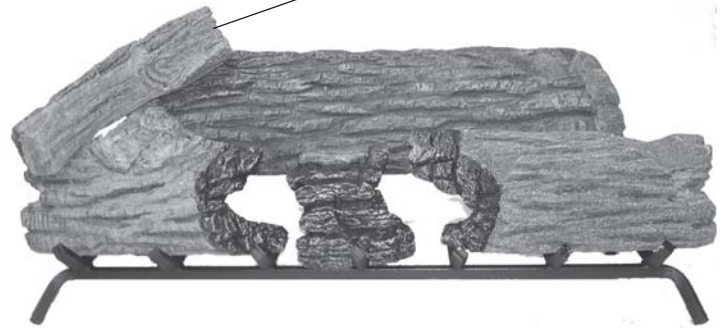

Figure 39 - Installing Left Side Log (#6)
6. Install left side log #6. See Figure 39.